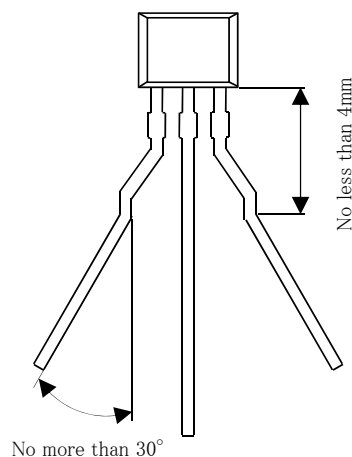

Fig.1 Bending of Leads toward Either Side.
- (1) Prepare a jig to prevent stresses to electrode lead or two pair of needle-nose pliers. Pinch a lead between the bending point and the body with one pair of pliers. Next, with the other pair of pliers, pinch the remaining part of lead and bend it.
- (2) To make a lead bending sideways as shown in Fig.1, bend at a point on the thin portion or at a point more than 4mm down from the body. The bending angle should be less than  $30^\circ$ .